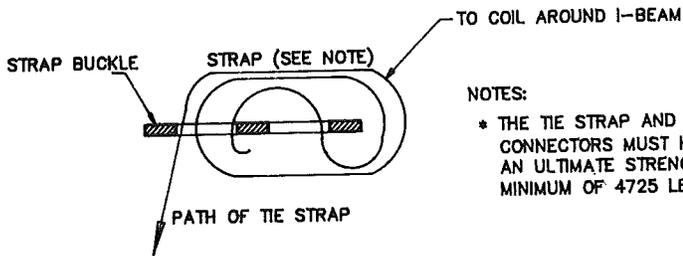

FIGURE 31
5. Typical frame and ground connectors are illustrated in figures 31 through 33.